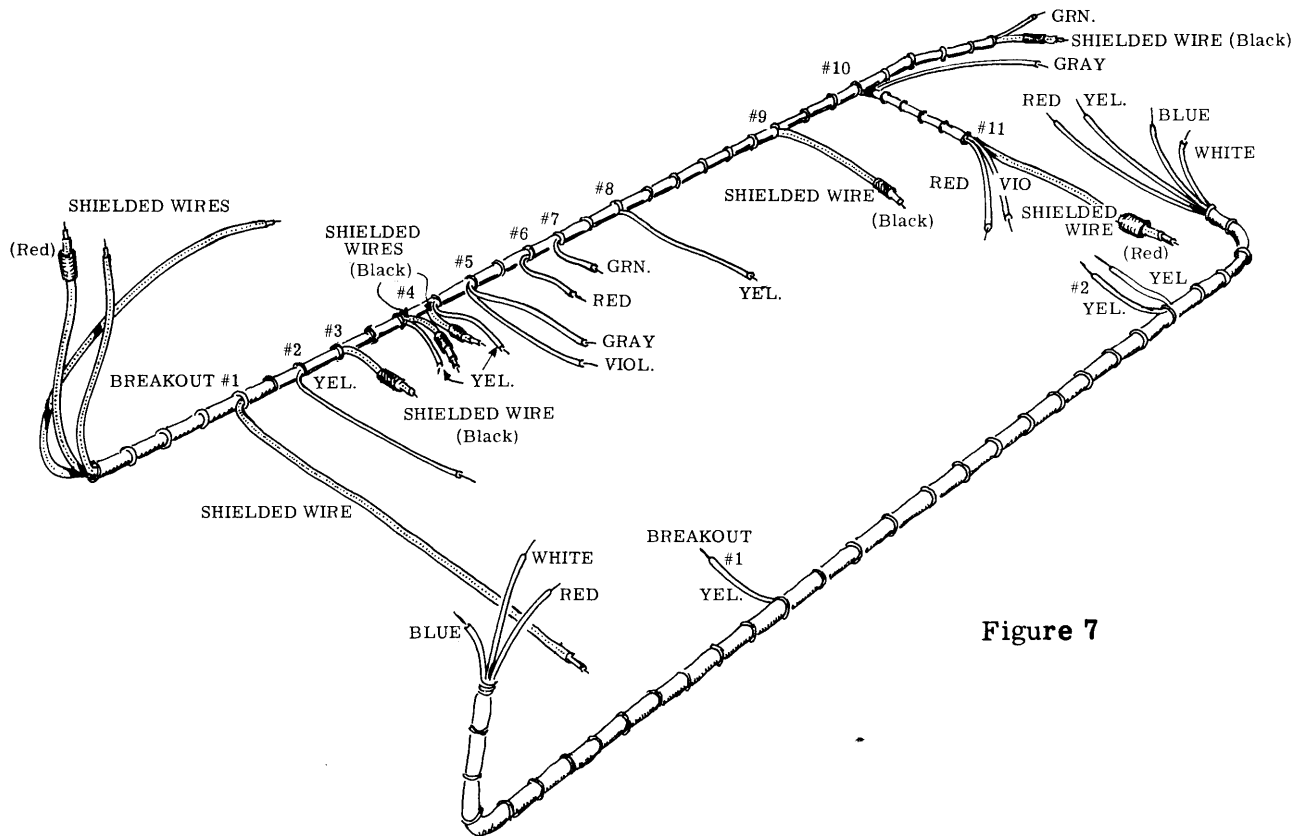

Figure 7
( ) Select and install the wiring harness which contains shielded wire, dressing to conform with Pictorial 3. Refer to Figure 7 for harness layout.
- (✓) Number 8 breakout (yellow): connect to C9 (NS).
- (✓) Number 9 breakout (shielded): connect the center conductor to DD1 (NS), and connect the shield to DD2 (NS).
- (✓) Number 11 breakout (red): connect to FF1 (NS).
- (✓) Install the second wiring harness, shown in Figure 7, in place on the deck. Locate breakouts as shown on Pictorial 3 and connect wires as follows:
- (✓) Connect the red lead from T2 to CC1 (NS).
- (✓) Connect the blue lead from T2 to CC2 (NS).
- (✓) Place sleeving on one of the enameled leads from T2 and connect it to CC3 (NS).